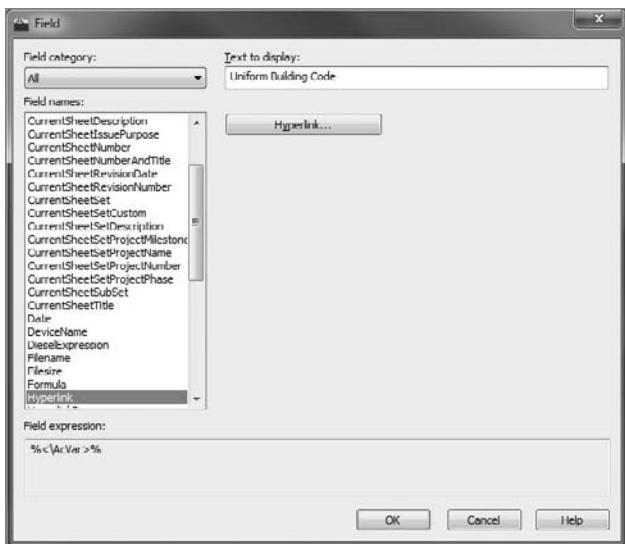

FIGURE 8.64 The Field dialog box
4. In the Field Names section of the Field dialog box that opens, select Hyperlink. In the Text to Display field, enter the text that you want to appear in the tooltip when the cursor hovers over the hyperlink (see Figure 8.64). In this case, it will be the same.